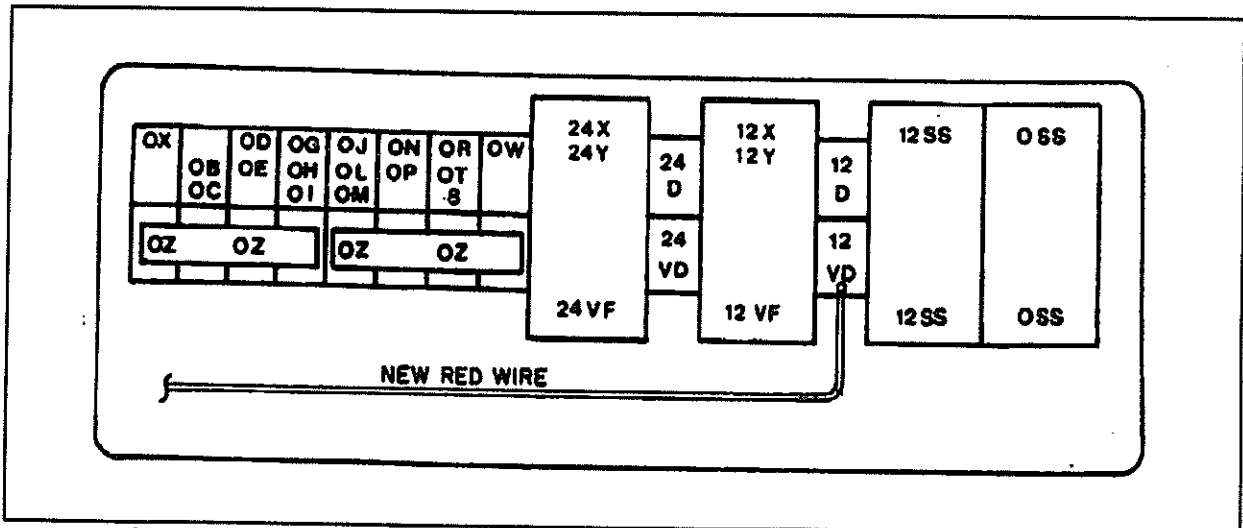

Fig. 4 - Junction blocks in front electric compartment
- e) Route wire to 12 volt terminal where wire #12VD is connected. Refer to figure 4.
- e) Route wire to 12 volt terminal where wire #12VD is connected. Refer to figure 4 page 7.